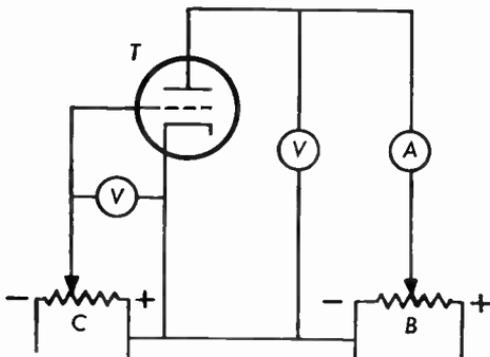

Fig. 4.04 Experimental circuit for determining triode curves.
**4.04** The circuit of Figure 4.04 is used to examine the tube  $T$ . It is found that with a grid voltage of  $-6$  volts and a plate voltage of 211 volts, the milliammeter reads 8 milliamperes; an increase of the plate voltage to 250 volts causes a rise of the plate current to 12.3 milliamperes. The plate voltage is then decreased to its original value